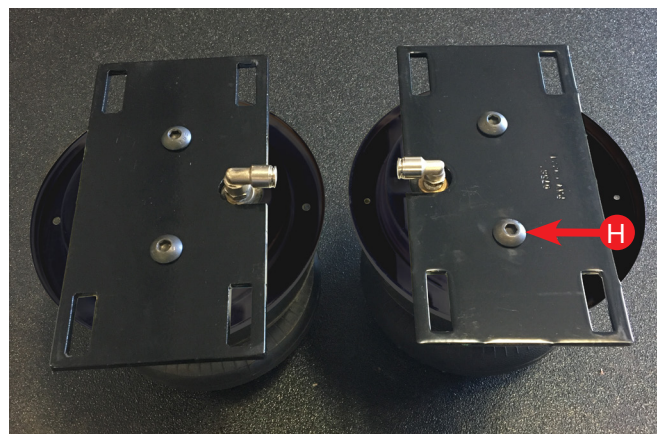

Fig. 18
4. Attach the upper air spring bracket using two 3/8" button head cap screws (H). Torque to no more than 20 lb.-ft. (27Nm) Repeat for the opposite side. Figure 18 shows both upper assemblies.